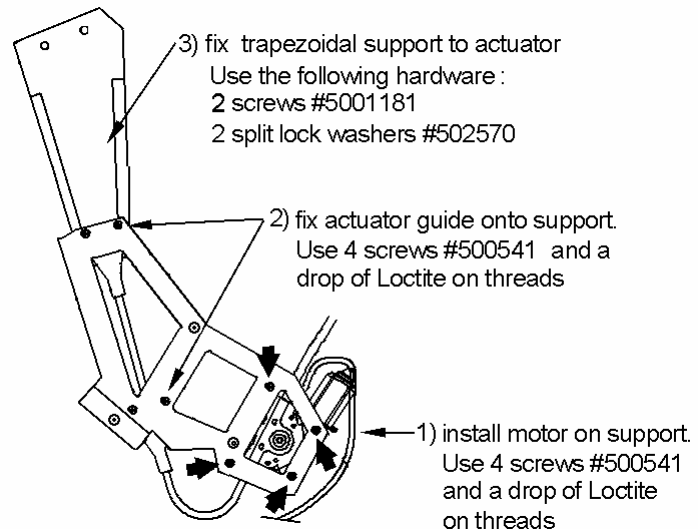

FIGURE 14
10. Assemble motor, support and trapezoidal support. Follow steps 1 up to 3 of figure 14.